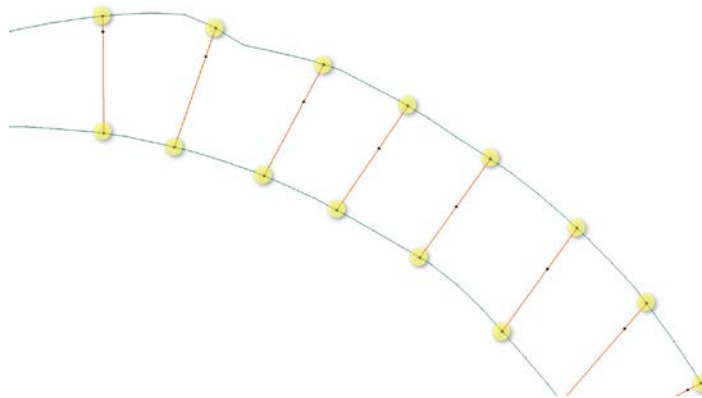
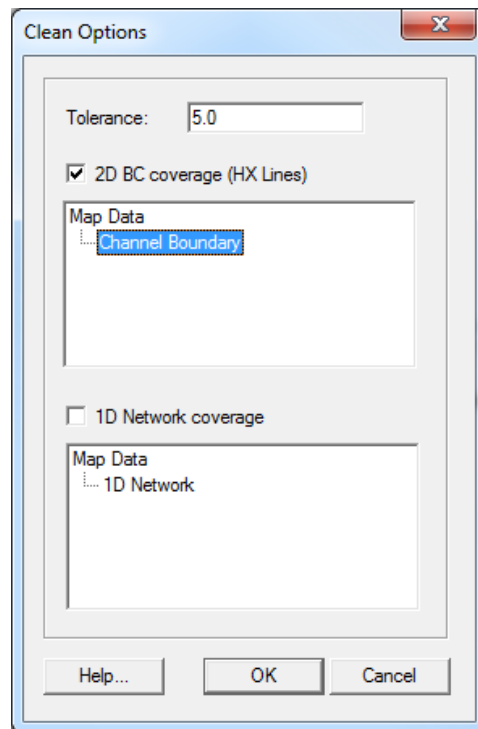

Figure 15 Location of vertices created or moved after performing *Clean Connections* command
Figure 16 1D/2D Connections Clean Dialog
8. In the dialog enter "5.0" in the *Tolerance* field, check *2D BC Coverage (HX Lines)* and highlight the "Channel boundary". Make sure the dialog looks like Figure 16 and click *OK*. This will make sure that connections arcs end at HX boundaries and the HX boundaries have vertices at the connection endpoints. Although there is no visible change in the screen, new vertices will be created, and if needed, the arc end points will be moved (shown in highlighted locations in Figure 15).